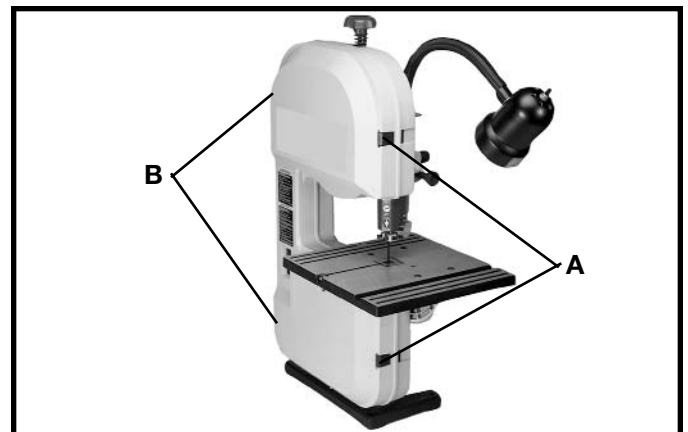

Fig. 17
When making adjustments such as changing the blade, tracking the blade, blade guide adjustments, etc., the door (B) Figs. 17 and 18, can be opened as follows:
1. Press in the two locking latches (A) Fig. 17, and swing door (B) open.
3. To close and fasten door (B) Figs. 17 and 18, press on door directly over latches (A) Fig. 17, until latches snap into the locking position.